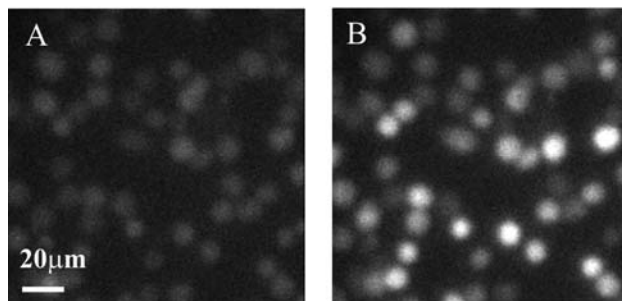

Figure S2
Figure S2. Representative fluorescence images of suspended CHO cell on chip in response to UTP. (A) shows suspended cells in a microfluidic channel before loading UTP and (B) shows response of the suspended cells to 1.0  $\mu$ M UTP.